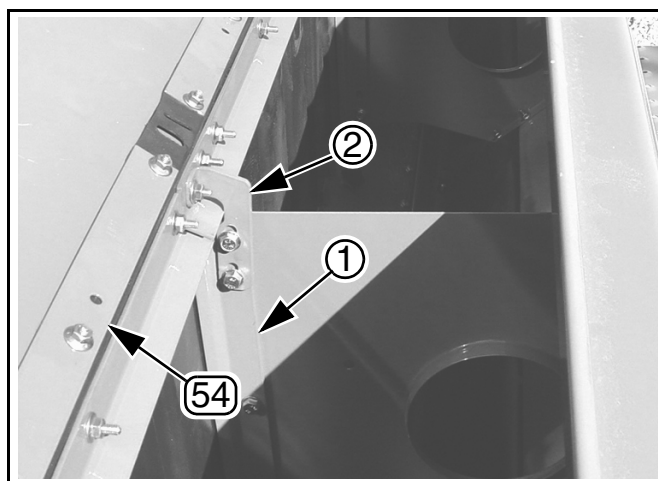

Figure 20
**Refer to Figure 20**
12. Remove top two bolts from each partition divider clip (1).
13. Attach spill flap assembly (54) to the main seed box by securing a top bar partition brace (2) to each box partition divider clip. Use bolts removed earlier and fasten the top bar partition brace to partition divider clip.